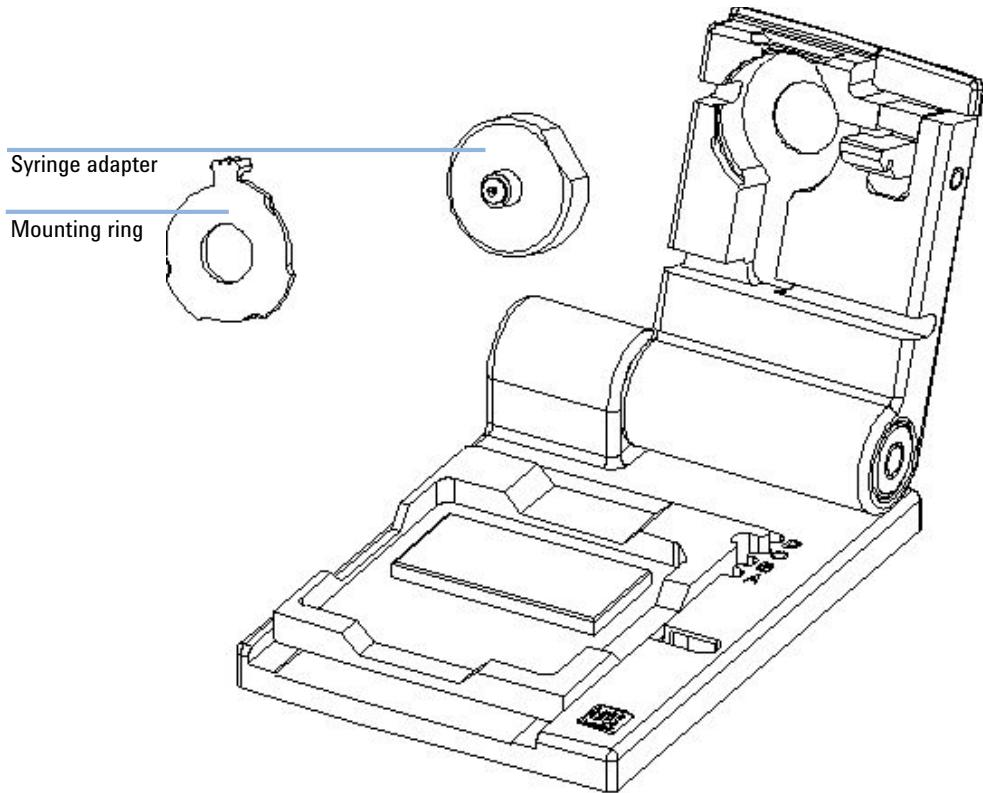

Figure 5 Removing/replacing the syringe adapter
- 3 Press the syringe adapter out of its mount as shown in Figure 5 on page 135.
- 8 Insert the syringe adapter, see Figure 5 on page 135.
- 3** Insert the syringe adapter, see Figure 5 on page 135.